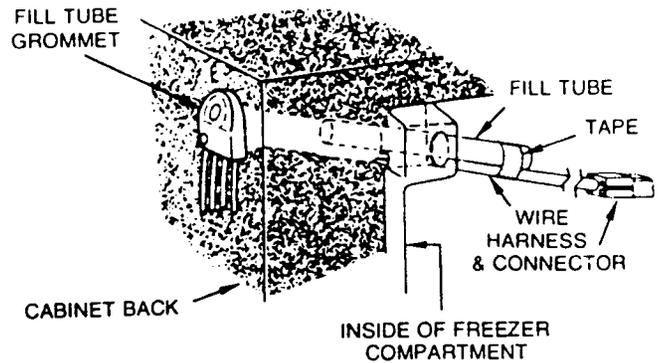

Figure 7 Cross-section view of fill tube grommet and associated parts properly installed
1. Wet the end of the plastic fill tube and push it into the exit end of the ice maker wire harness grommet as far as it will go, approximately 1 inch (figure 7 shows these items installed in the cabinet).
2. Carefully unwrap the tape from the fill tube. Then tightly tape the end of the fill tube to the wire harness (see figure 7). Straighten the harness so it extends straight out beyond the end of the fill tube.
5. Using the insulation depressor as a temporary guide, push the ice maker harness and fill tube through the passage and into the freezer (see figure 7). Then, using a twisting motion, seat the rubber grommet in the cabinet hole, making sure the small hole in the grommet is aligned with the one in the cabinet. NOTE: the grommet is intended to fit very tightly to provide a good seal against the cabinet back.